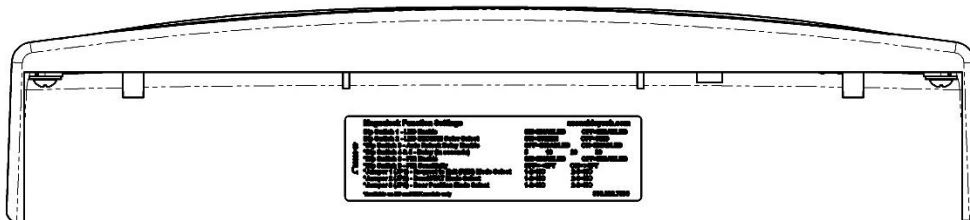

Figure 31. Settings Label
- COMPLETE the label and AFFIX it to the inside cover of the Magnalock (see Figure 31, “Settings Label”).